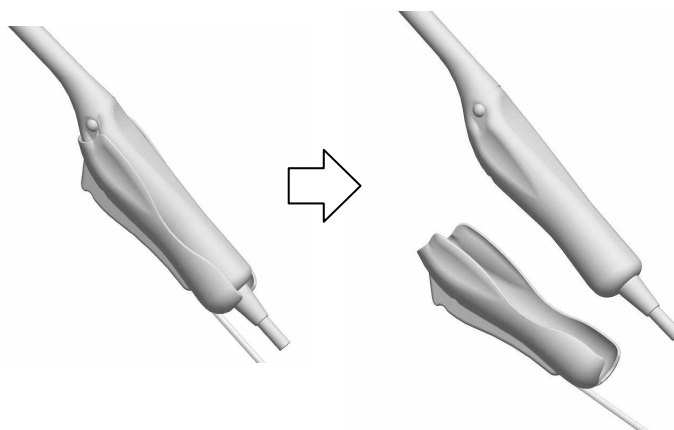

Fig.9 How to release the Magnetic sensor attachment from the probe
- 1) Detach the Magnetic sensor attachment from the probe as shown in Fig.9.